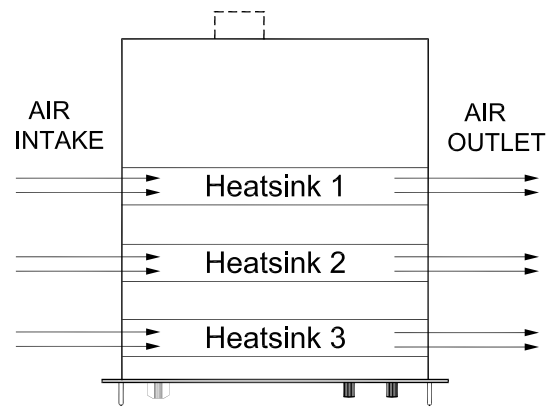

fig. 9 - 1
- The internal construction of the power supply is such that no dust will reach the sensitive control circuitry, the heat sinks in a tunnel will be cooled by forced air (see fig. 9 - 1)